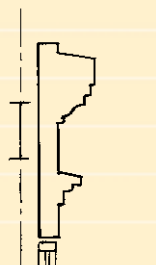

Fig. 3-4
- Doubled to create even more design interest (as in Fig. 3-4).